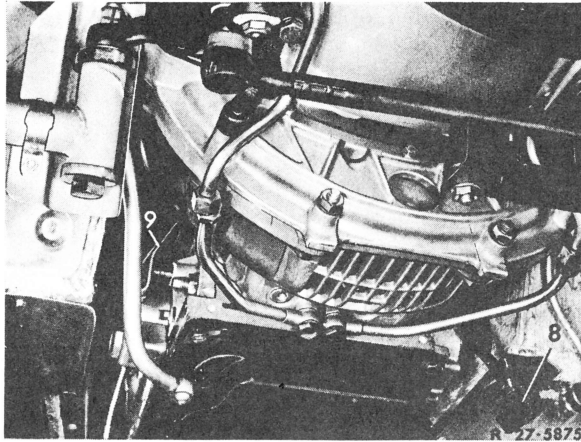

Fig. 7
15 Pull out plug for starter lock-out and back-up light switch (8) (Fig. 7).
16 Unscrew clamping screw from lever for control pressure (9) and pull lever from shaft (Fig. 7).
40 Slip control pressure lever (9) on shaft and tighten clamping screw well (Fig. 7).
41 Attach plug (8) for starter lockout and back-up light switch (Fig. 7).